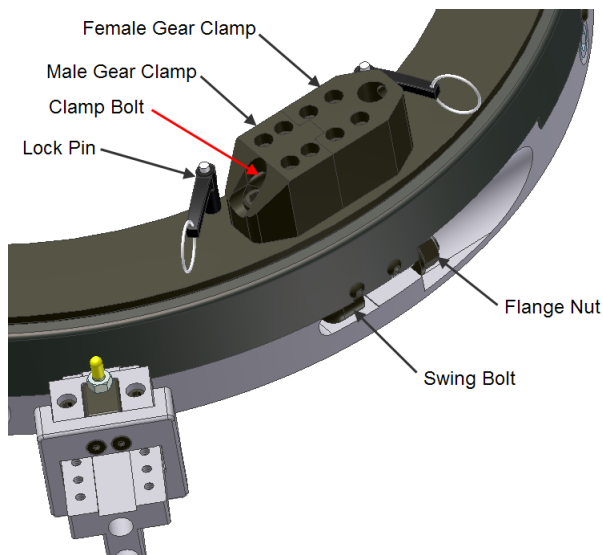

Figure 3
3. Loosen the 4 swing bolt flange nuts (8 on HD60 or larger) and swing the bolts out of the pockets in the housing. Loosen the 2 clamping bolts (4 on HD60 or larger) on the gear halves (quarters) and separate the clamshell halves (quarters) by pulling straight apart and then open. (See Fig. 3)